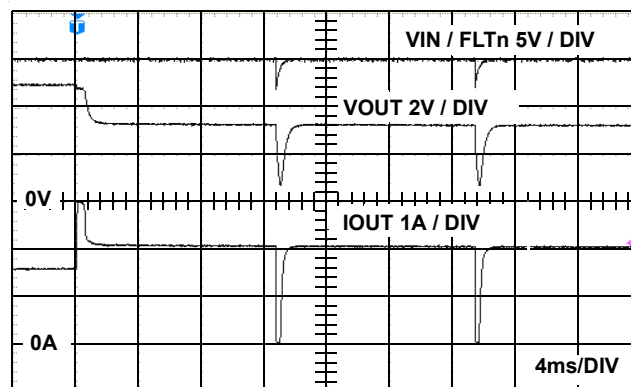

FIGURE 19. AUTO RESET OPERATION
Initially as voltage is applied to VIN, the pull up resistor (Rpu) provides for pull up to VIN on both the ENABLE pin asserting the output once VIN > 2.5V and on the FLTn pin. Once turned on and an overcurrent (OC) condition occurs the IC provides CR protection for 10ms and then the FLTn pin pulls low through Rpu and also pulling the ENABLE low thus resetting the device fault condition. At this time the Rpu charges the cap and the voltage on the ENABLE / FLTn node rises until the ENABLE > 2.0 and the output is asserted on once again. This automatic reset cycle will continue until the OC fault no longer exists on the output. After several seconds in this mode of operation the IC thermal protection invokes adjusting the timing of the on-off cycle to prevent excessive thermal dissipation in the power switch protecting itself and surrounding circuitry. See Figure 19 for operation waveform.